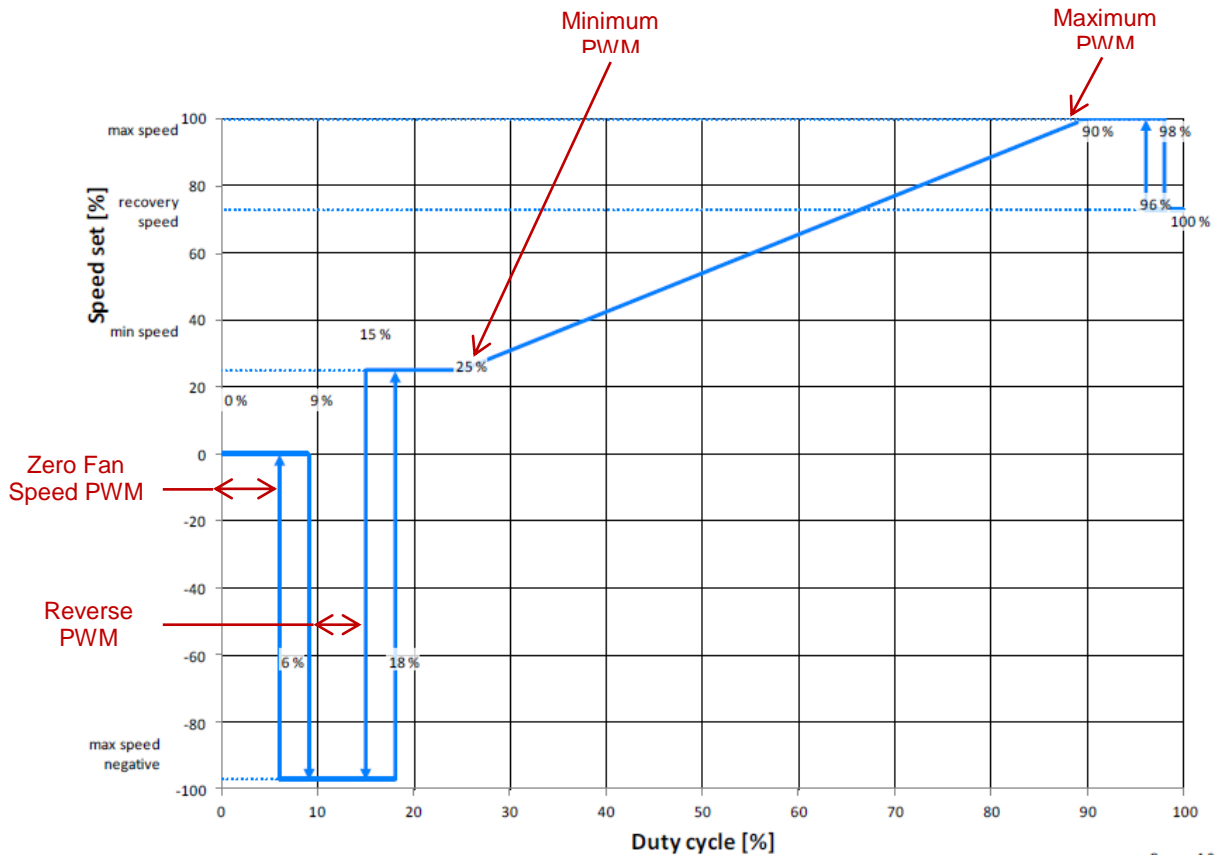

Figure 22
- **Zero Fan Speed PWM** – the PWM duty cycle % that causes the fan(s) to stop, see Figure 22.
- **Maximum PWM** – the PWM duty cycle % that causes the fan(s) to run at maximum RPM, see Figure 22.
- **Minimum PWM** – the PWM duty cycle % that causes the fan(s) to run at minimum RPM, see Figure 22.
- **Reverse PWM** – the PWM duty cycle % that causes the fan(s) to run in Reverse, see Figure 22.